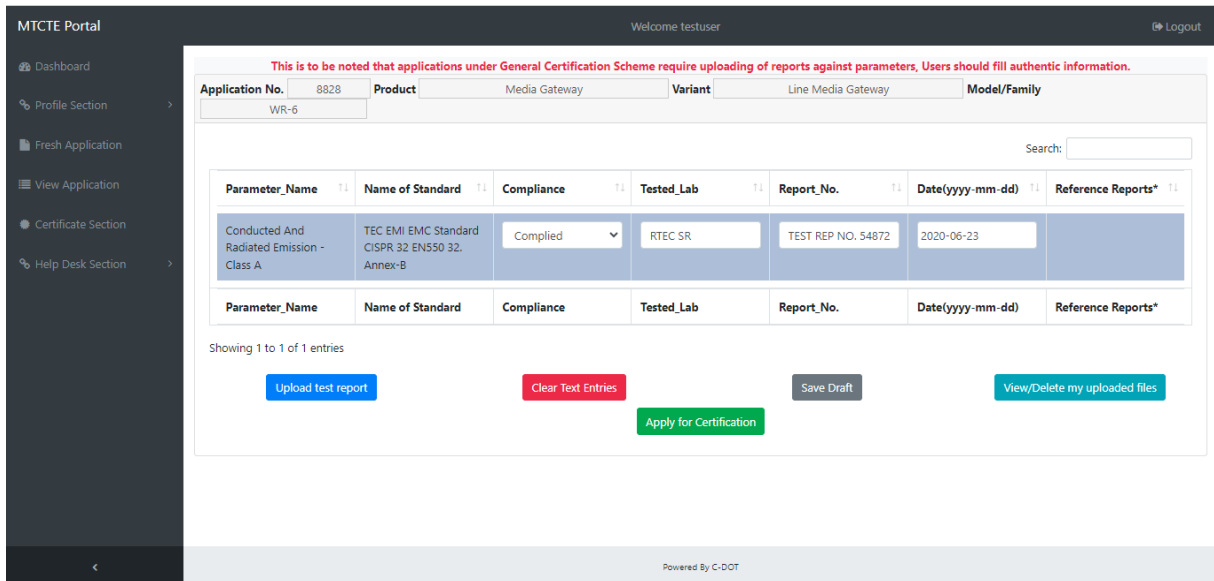

Fig. 46: Parameter wise Compliance sheet
- j. On the next page, Compliance sheet will be opened. Here applicants can see the list of parameters for which relevant details have to be filled and test reports against each parameter are to be uploaded (Fig. 46).